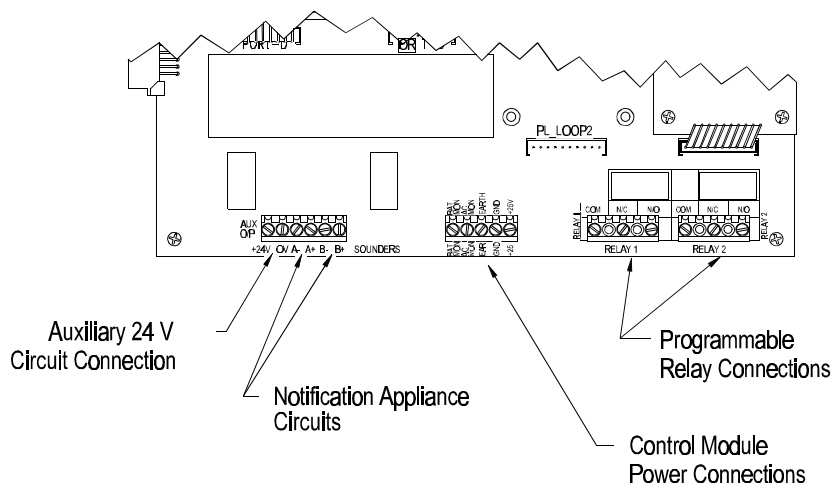

Figure 3: Terminal Connection Points on the D8024 Control Module
- The D8024 has two power-limited and supervised Class “B,” Style “W” Notification Appliance Circuits (NACs). The terminal blocks for these circuits are at the lower left edge of the Control Module. (See Figure 3.) Each notification appliance circuit must be terminated with a 2.21k ohm End Of Line (EOL) resistor (Part No. 25899C, available from Radionics). Two resistors for the indicating circuits are included in the Literature Pack. Each circuit has a maximum rating of one Amp. If the system requires more than two circuits use the D327 Indicating Circuit Module to add circuits as required.
- The D8024 has terminals for a power-limited auxiliary 24V circuit at the lower left of the Control Module (see Figure 3). This circuit is rated at 1 Amp maximum.